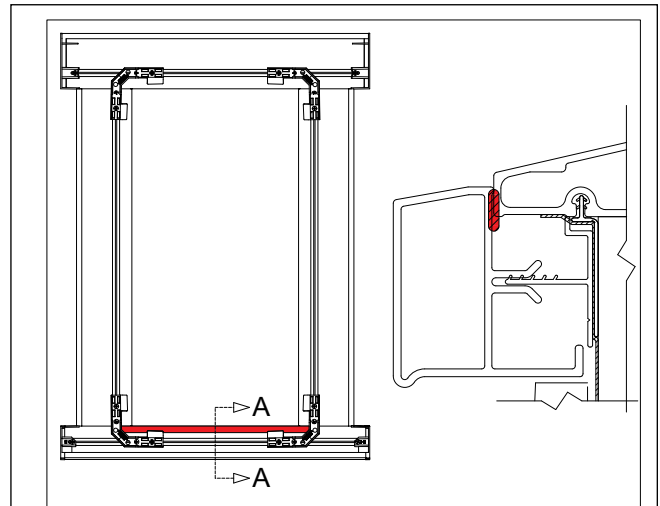

Figure 47
- Apply a 3/16" (5) bead of clear grade NS class 25 sealant of the sill piece near the bump in the profile the length of the part, on the interior of the casing as shown in *figure 47*.